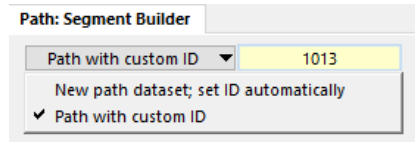
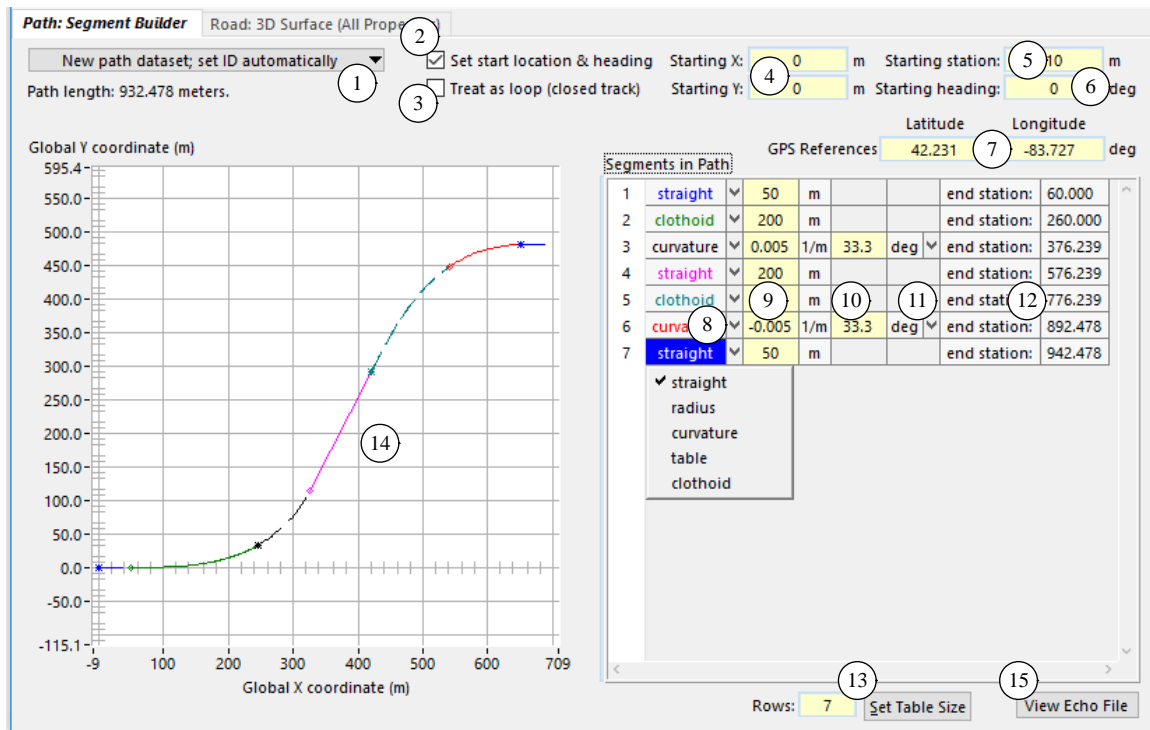
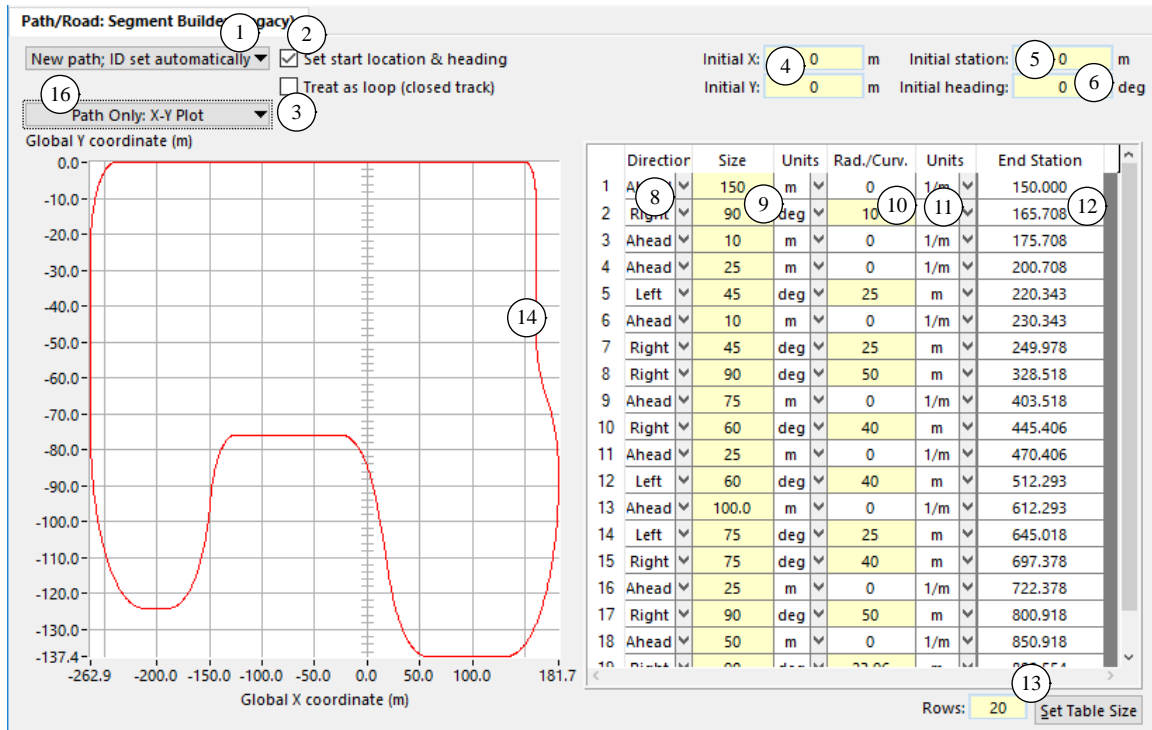

Figure 4. When describing a Reference Path in the GUI, there are two options to set the ID.
Figure 7. The Path: Segment Builder screen.
Figure 11. The Path / Road: Segment Builder (Legacy) screen.
When setting up a Reference Path in the Browser GUI, there are usually two options for setting the ID (Figure 4). If the option is selected to set the ID automatically, it simply matches the internal index number, e.g., `PATH_ID(2)` would be set to 2. If the option is selected to set a custom ID, a yellow field is displayed for an integer value of 999 or greater (Figure 4 and line 685 in Figure 3 both show an ID set to 1013).
The **Path: Segment Builder** screen (Figure 7) provides the most comprehensive tool for assembling a Reference Path.
- (1) Drop-down list to specify how this dataset will be identified. The control offers the two options that were described earlier (Figure 4, page 7). The ID can be set automatically (Figure 7), or a custom ID can be set (e.g., 1013 in Figure 4). If a custom ID is specified, the value is checked as described earlier (page 7).
- (2) Checkbox to show fields for setting the initial coordinates (4) and heading angle (6). If not checked, the path starts at (0,0), pointed east (heading = 0).
- (3) Checkbox for the path loop option (keyword = OPT_PATH_LOOP). This determines how a VS Solver handles X-Y and S-L transforms outside the range of station covered by the table. When not checked, the path extends infinitely in both directions, with zero curvature outside the range of station covered in the table. When checked, the first and last X-Y coordinates at the end of the path must be the same as the starting X-Y coordinates (within a tolerance), and the heading must match (within a tolerance). The VS Solver will generate an error if the initial and final X, Y, and Heading values are not within a tolerance built into the solvers. If this happens, you can view the Echo file generated for the path (15) to see details of the X, Y, and Heading values after each segment.
- ④ X and Y global coordinates for the path at the start of the first segment (keywords = X_PATH_START, Y_PATH_START). These are not shown unless the box ② is checked.
- ⑤ Starting station (keyword = SPATH_START). This defines the station at the beginning of the Reference Path.
- ⑥ Heading angle at the start of the path (keyword = HEADING_START). This is not shown unless the box ② is checked.
The **Path/Road: Segment Builder (Legacy)** screen (Figure 11) was introduced in 2008 (CarSim 7.1). At that time, the screen served as a tool to build the path used for the single road in the simulation with segments, which were used to write a single table of X-Y coordinates for the VS Solver.
The circled numbers in Figure 11 going from ① to ⑭ identify controls that also exist on the **Path: Segment Builder** screen (Figure 7, page 11), described previously.
The first three options offer support for a path used in a 3D road, with friction and elevation information (described later in the Road Surface section, page 44). The fourth option limits the scope of the dataset to a Reference Path. When this option is selected, only controls related to a Reference Path are shown (Figure 11).